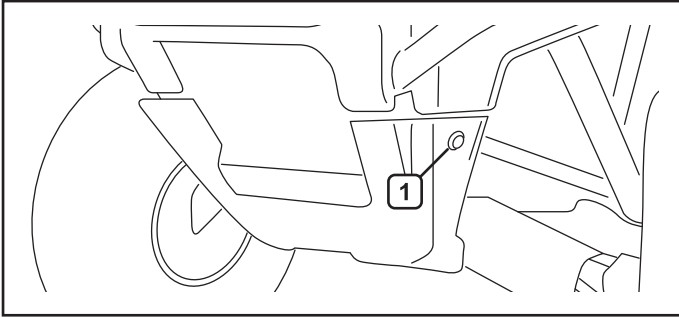

Figure 1.
1. Remove two bolts (1) from skid plate as shown in figure 1.